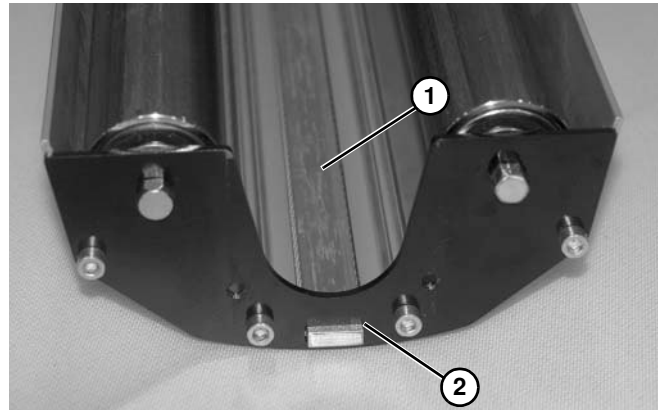

Figure 94
*Before reassembly, make certain that the bar (**Figure 94, item 1**) rests inside slotted area (**Figure 94, item 2**) in each side bracket.*